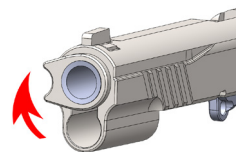

Figure 40
- Rotate the barrel bushing clockwise until it stops - Figure 40.